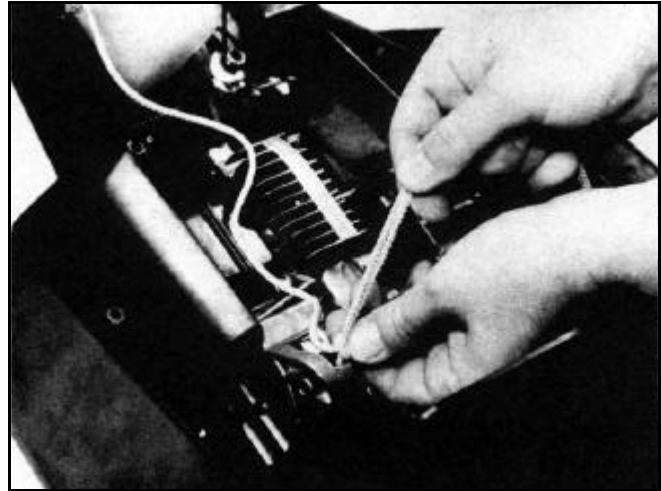

Figure 219
5. Fully extend the recoil starter rope and tie a knot in the rope at the starter idler pulley (Figure 219).